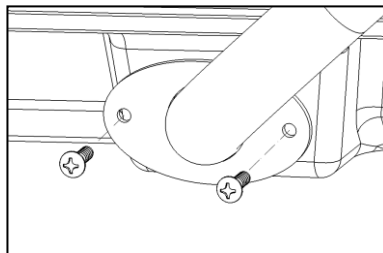

Figure 3
3. Place the OVAL BRACKET over the BASE TUBE and slide the OVAL BRACKET down to the spa. Using the drill with Phillips bit, attach the OVAL BRACKET to the spa, using two pan head screws, as shown in Figure 3.
4. Hold the cabinet latch on the mark and using a Phillips screwdriver, drive three screws through the holes in the cabinet latch and into the outside of the spa (fig 3).